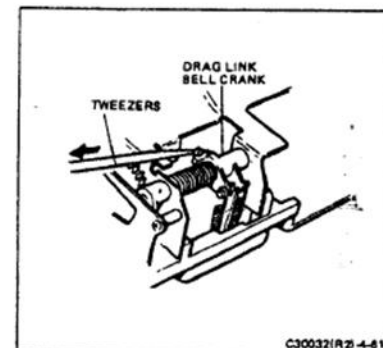

FIGURE 4-61 REMOVING FRESNEL CARRIER DRIVE SPRING
7. Refer to Figure 4-61. Using tweezers, slip the hooked end of the Fresnel carrier drive spring off its retainer on the drag link bell crank.